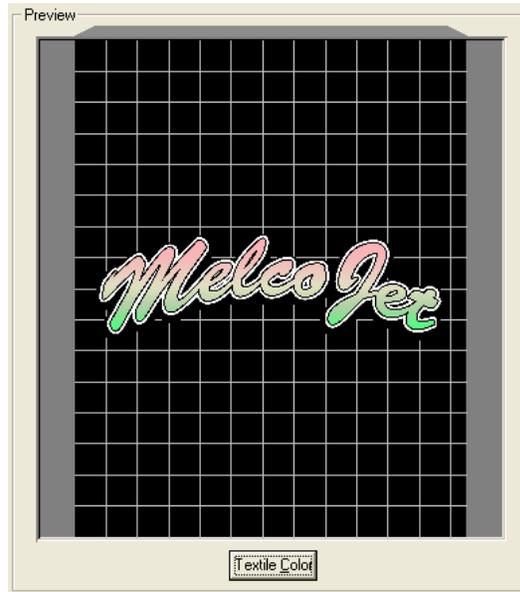

Figure 5.2 – transparent background
- Figure 5.2 is an example of an image “opened” in EK Print Studio with a “transparent” background – THIS IS CORRECT